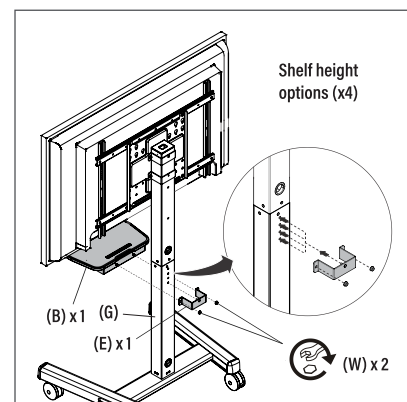

Figure 11
The shelf assembly (B) can be installed in four different positions to achieve the desired height. (See Figure 11)